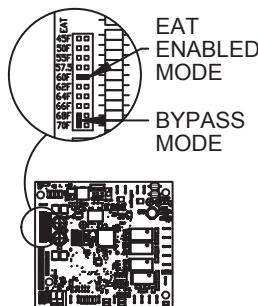

Figure 1
a. **On EDSM and EDSM/TP control systems**, if the remote control station hasn't been tested and the ambient temperature is at or above the Entering Air Thermostat (EAT) set point, note the set point position and pull the jumper off the temperature set point (EAT Enabled Mode) and reinstall it sideways on the terminal block (Bypass Mode) as shown in Figure 1. Refer to the Individual Component Description section for additional information.